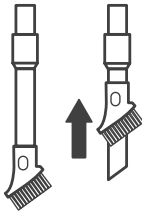

Figure 1.3
- Press button to slide bristles up/down and switch between crevice tool and dusting brush. **[Figure 1.3]**